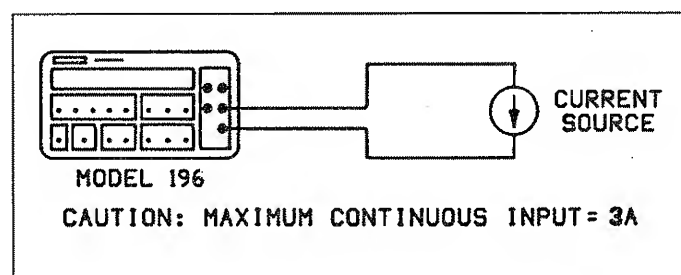

Figure 2-7. Current Measurements
4. Connect the signal to be measured to the selected input terminals as shown in Figure 2-7.